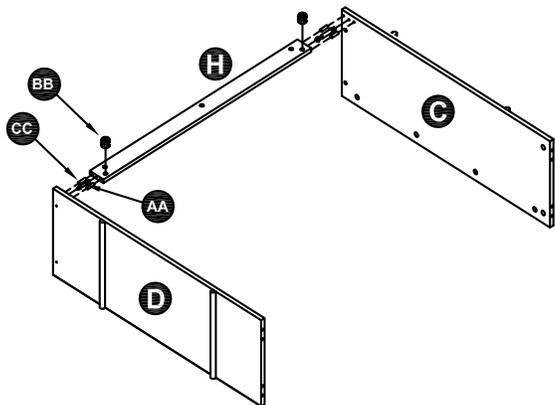

Figure 2
2. Insert the cam Locks (BB) and wood Dowels (CC) Tighten the cam Dowels (AA) into the Back Crossbar (H) position on the back and up Right side panel (D) and left side panel (C) Secure it by tightening the cam Locks (BB) As shown in Figure 2.